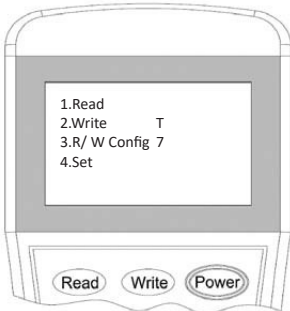
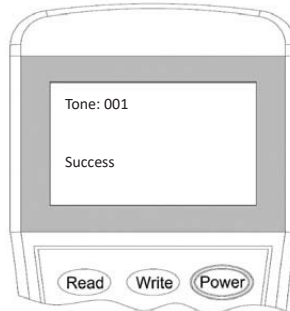

Figure 14
Figure 15
2. Switch-on the programming tool, then press button **“4”** to enter to **Setting** mode (Figure 14). The programming tool will display the actual configuration after few seconds. Input the desire Tone (Table 1) then press **“Write”** to change the setting (Figure 15).